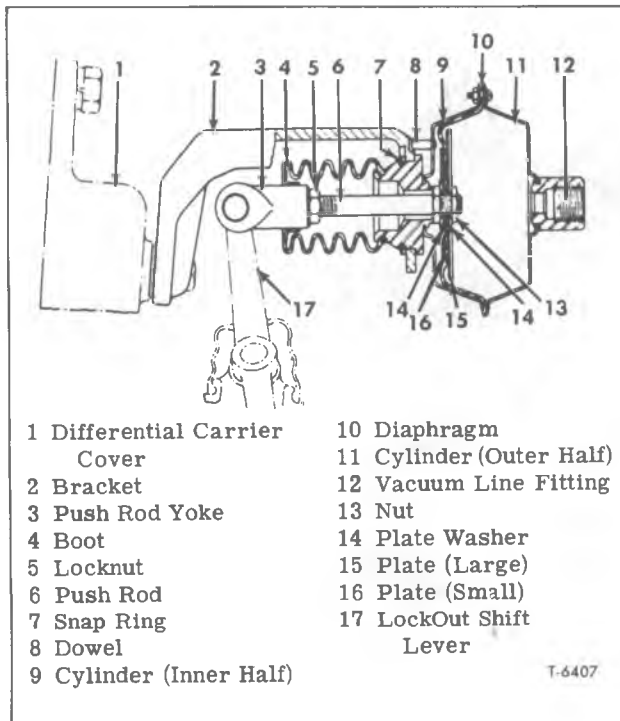

Figure 35—Differential Locking Cylinder
The locking cylinder (fig. 35) operates the lock-out shift lever so the sliding clutch engages the input shaft helical and differential side gear to divide power equal to both axles.
2. Remove the clevis yoke and nut from the push rod (fig. 35). Remove the screws, nuts, and lock washers which attach the two halves of the cylinder and the rubber diaphragm together. Remove the outer half of the cylinder, and separate the rubber diaphragm from the inner half of the cylinder.
With lock control knob (fig. 35) in "UNLOCK" position, there is no air pressure in differential lock shift cylinder. Shift return compression spring holds cylinder piston and lock linkage in unlocked position.